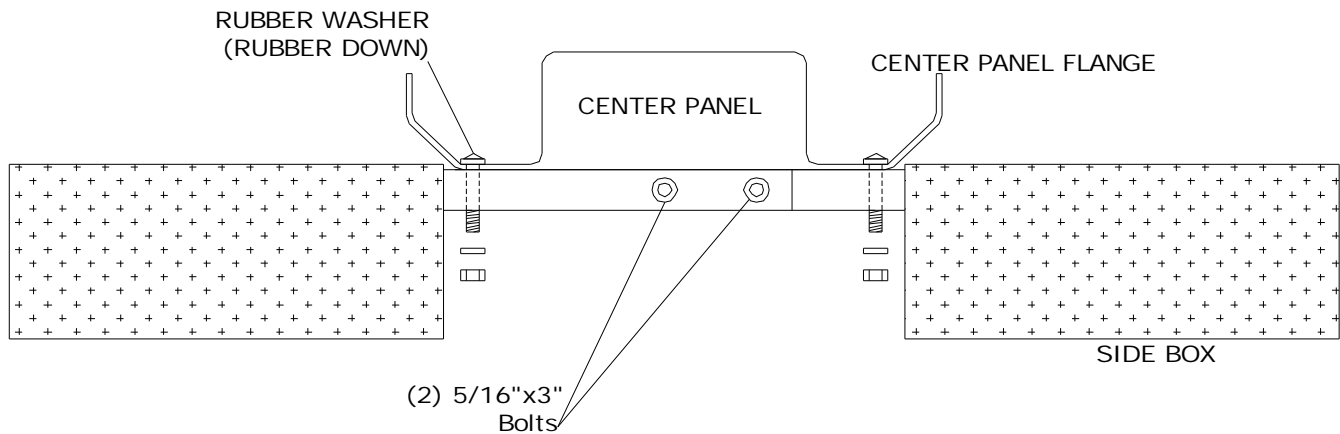

Figure 5
***Dodge Ram Long Bed must use "Same Side Installation" shown in Figure 5.